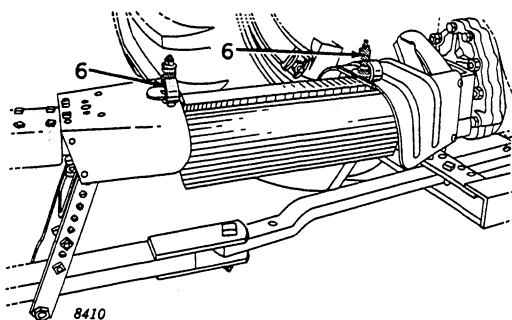

Figure 90
6. (Figure 90) Attach universal joint and pipe connection shield to take-off shaft shield on tractor and to shield on power shaft front bearing as shown.
- M. **Implement manufacturers must furnish shielding for the part of power line that he supplies.** (See "6," Figure 90.)